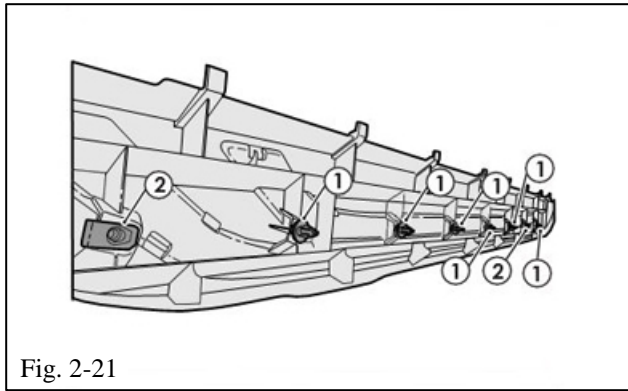

Fig. 2-21
- (t) Install a flange bolt into each U-nut and torque to 6 N-m (5 ft-lb) (Fig. 2-21).